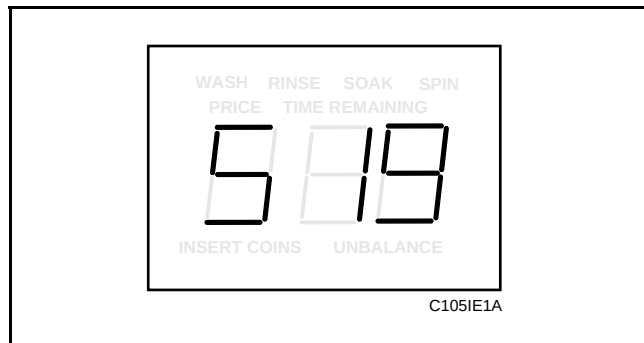

Figure 70
2. While pressing and holding the PERM PRESS keypad with one hand, press the COLD keypad with the other hand. Programmable option number one, “Slg”, will appear in the VFD. See **Figure 70**.